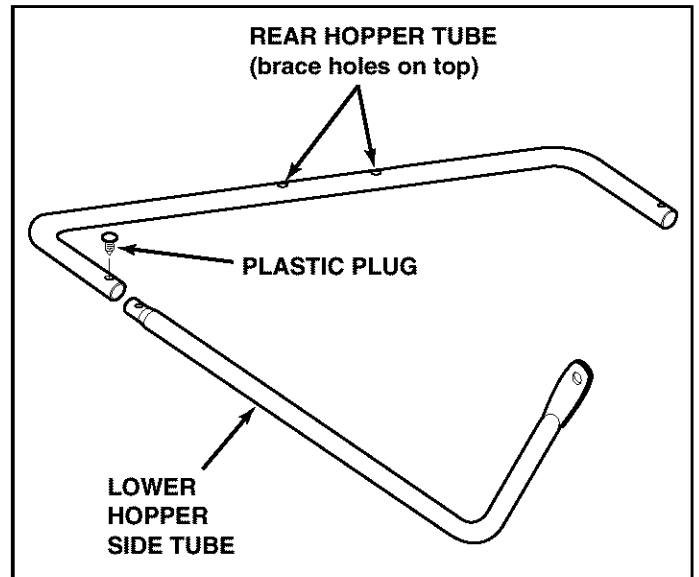

FIGURE 11
- Turn the rear hopper tube so that the brace holes in the middle of the tube **face up**. Assemble the ends of the rear hopper tube onto the ends of the lower hopper side tubes. Fasten together using plastic plugs. See figure 11.